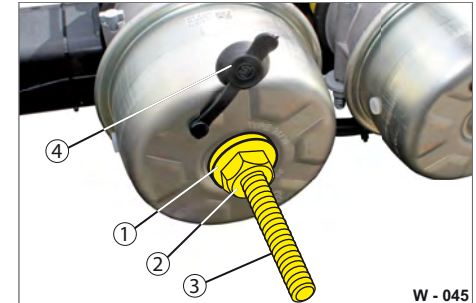

Fig. 45 Releasing spring tension
- ▶ Slide on the washer (Fig. 45/1).
- ▶ Screw the hexagon nut (Fig. 45/2) onto the release bolt (Fig. 45/3).
- ▶ Unscrew the hexagonal nut (Fig. 45/2).
- ▶ Remove the washer (Fig. 45/1).
- ▶ Turn the release screw (Fig. 45/3) 90° and remove it.